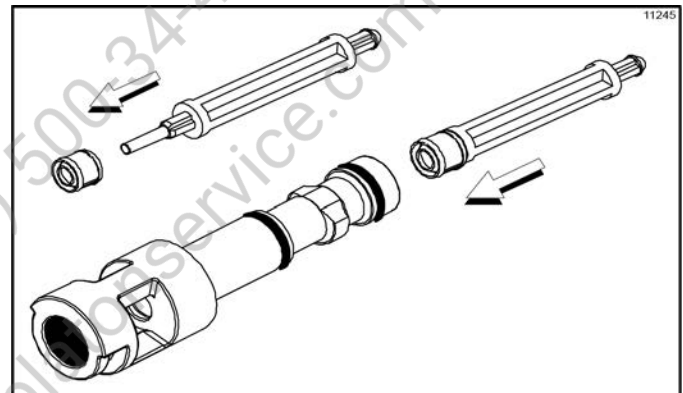

Figure 6-8
**Important!** Inspect to see that the spinner shaft seal is correctly installed in the groove. A worn, missing, or improperly installed spinner shaft seal will cause product leakage out the top of the draw valve. (See Figure 6-8.)